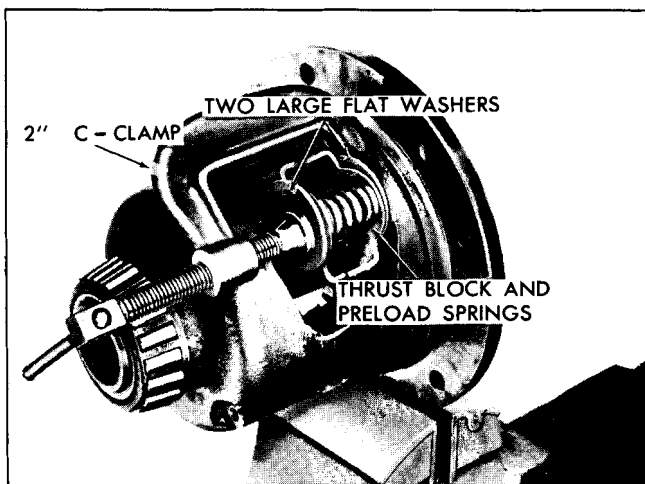

Fig. 4B-10 Compressing Pre-load Springs - B Series - "O" Axle
11. Compress the preload springs with a 2" C clamp, as shown in Fig. 4B-10, and drive the preload retainer and springs between side gears.